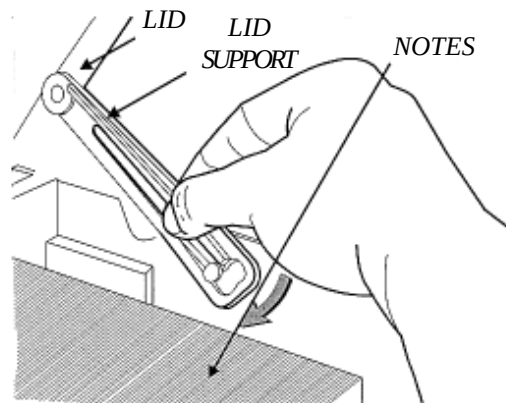

Figure 4-4. Latching the lid in the raised position.
2. Gently lift the lid until the lid support latches in place as shown in Figure 4-4.